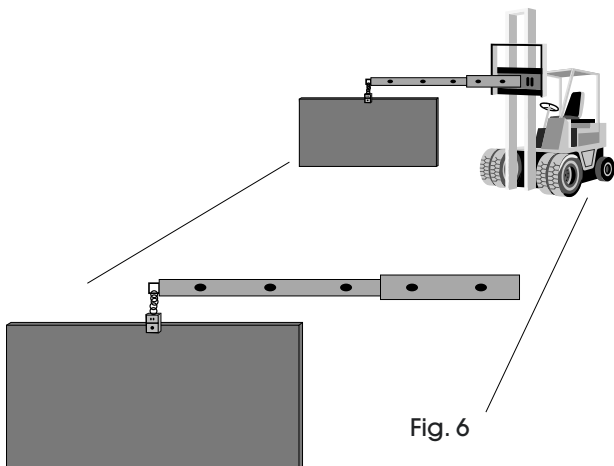

Fig. 6
- Slabs and components should be loaded and unloaded from transport vehicles with appropriate lifting devices (See Fig. 6).